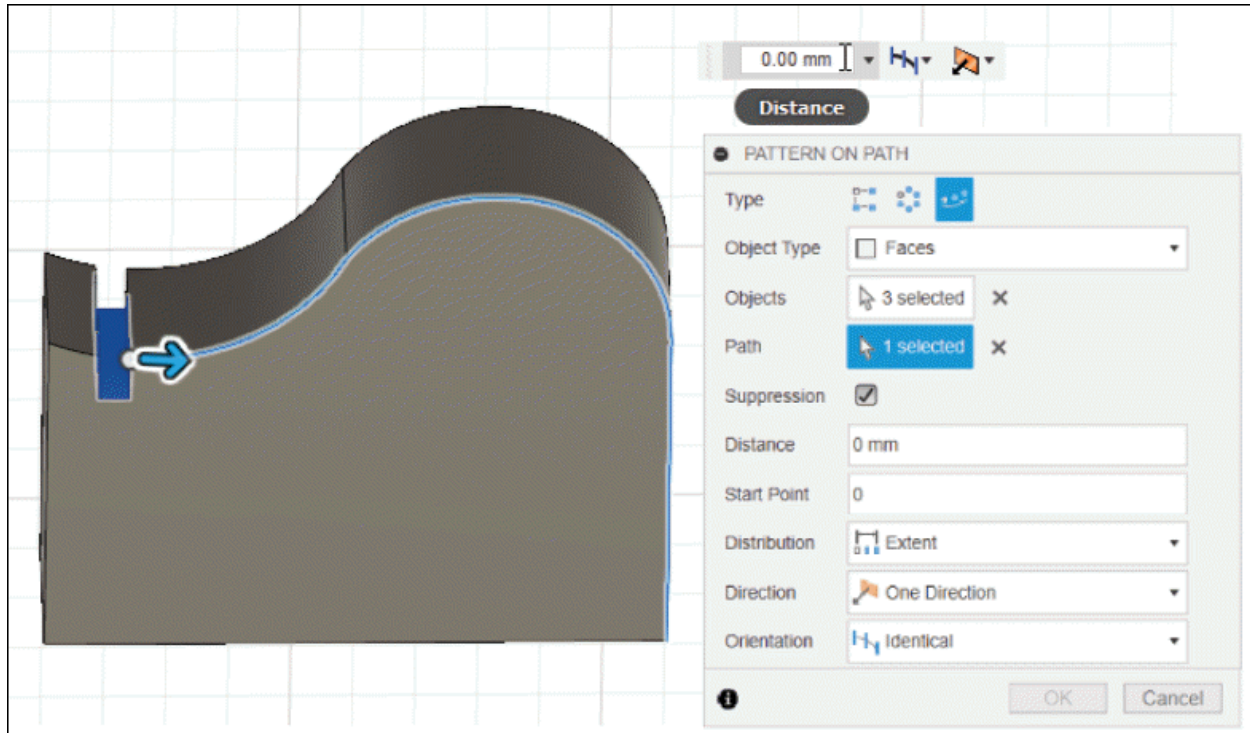

Figure-101. Updated PATTERN ON PATH dialog box on selection of path
- On selecting path, the updated **PATTERN ON PATH** dialog box will be displayed; refer to Figure-101.